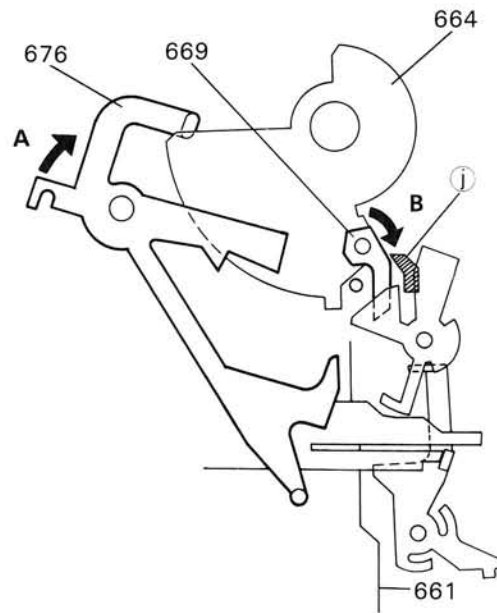

Fig. 6
At this time, the hook (669) also hits against the boss (i) to rotate in the direction of arrow B. (Fig. 6)